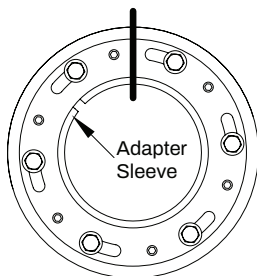

Figure 2 - Mark face of external nut and adapter
5. **Important: Mark a line across the front and top of the adapter and external nut to be used as a location reference, see Figure 2. This is a critical point and represents the location of the nut assembly before the hex head bolts are tightened.**